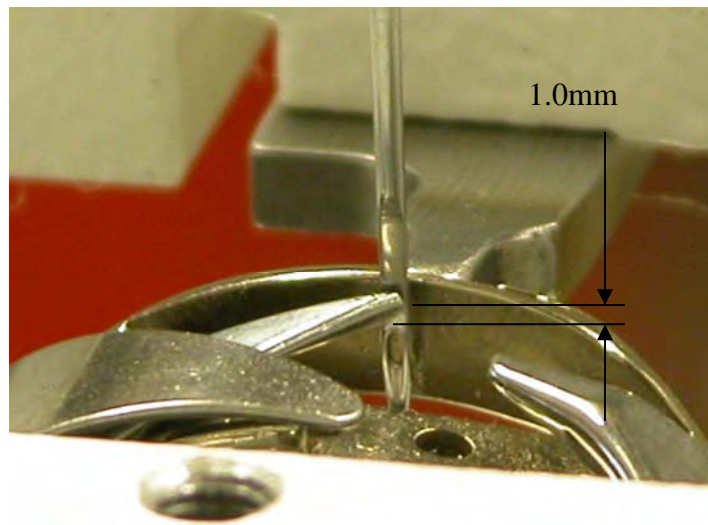

Fig 12.1
**Check:** Turn the handwheel in the direction of motion until the hook point becomes even with the right side of the needle as shown in (Fig 12.1). The hook point should be 1.0mm above the needle eye. If the height of the needle appears to be out, install the Loop Lift Clamp and 2.2mm feeler gage as shown in the Adjustment of Loop Lift and Needle Distance Section, check loop lift. If the machine requires a Loop Lift adjustment, remove the stop finger, and hook body from the machine. Follow the steps using the Needle Height Cylinder tool: